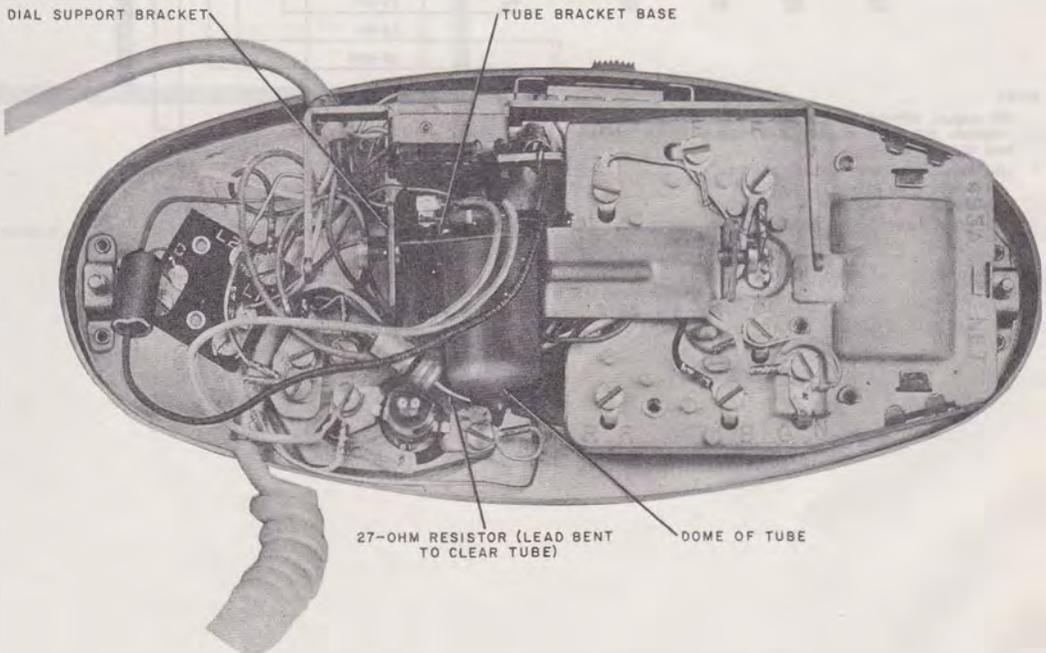

Fig. 10—Location of Cold-Cathode Tube in 701B Telephone Set
3.11 If 4-party selective or 8-party semiselective service is desired, a 425A or 426A cold-cathode tube may be ordered and installed in the base of 701B or 702B telephone sets as follows (Fig. 10):